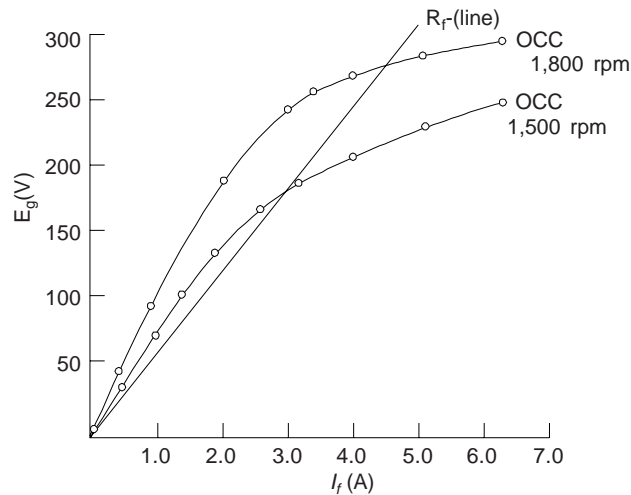

Fig. P7.2
- (a) OCC is drawn in Fig. P7.2.